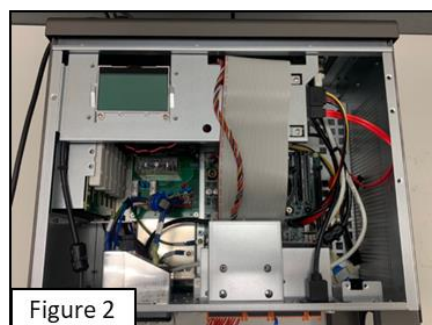

Figure 2
- Carefully pull the Front cover out along the track (as shown in Figure 2).
- Carefully pull the Back cover out along the track (as shown in Figure 2).
- Use the Phillips screwdriver to loosen the screw on the Left cover (as shown in Figure 2).
- Use the Phillips screwdriver to loosen the screw on the Right cover (as shown in Figure 2).
- Use the Phillips screwdriver to loosen the screw on the Top cover (as shown in Figure 2 and Figure 3).
- Remove the two cables (as shown in Figure 2).